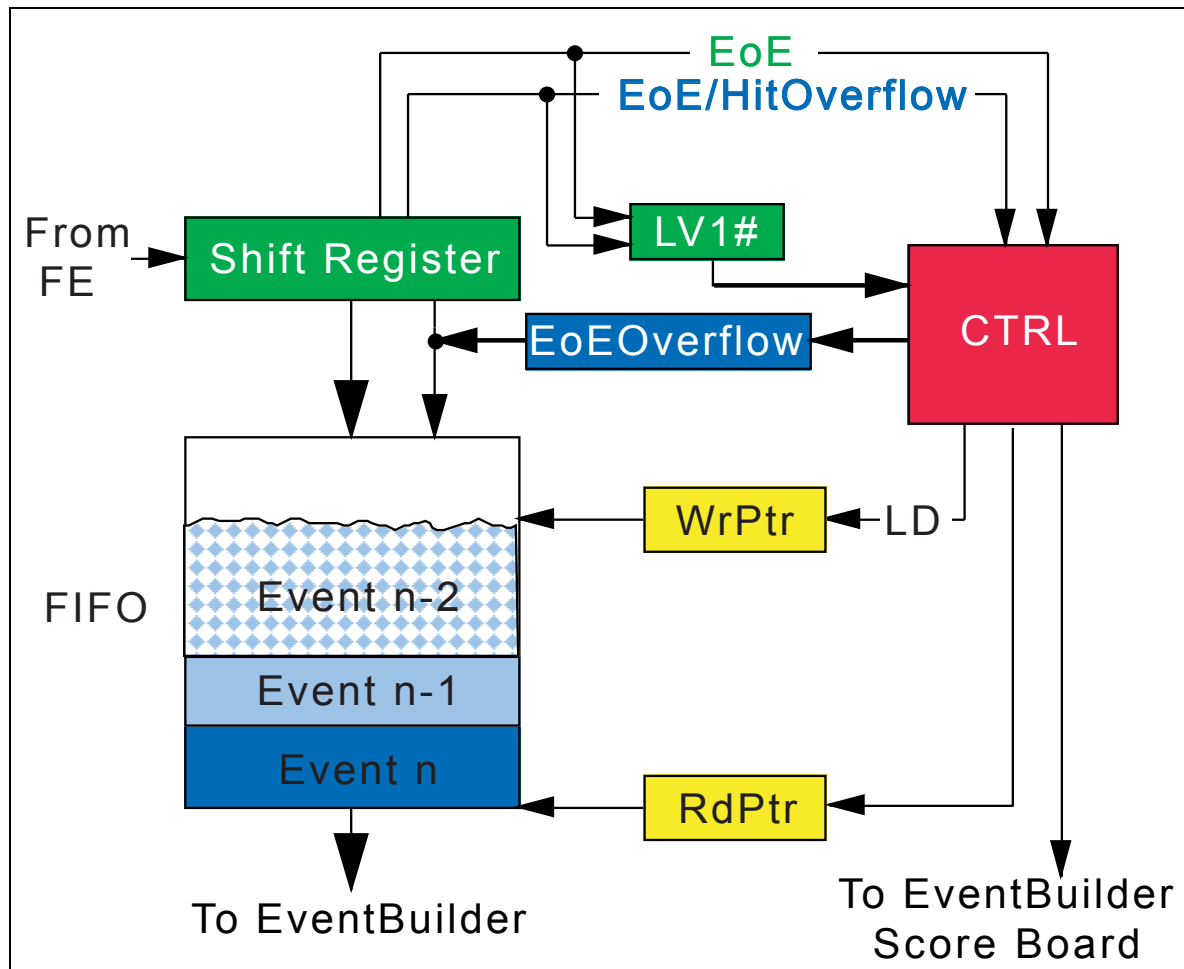

Figure 3-2 Event R/O by MCC: Front-End Receiver and input FIFO.
- Fig. 3-2** *p. 4* Event R/O by *MCC*: Front-End **Receiver** and input **FIFO**.
The block diagram of Figure 3-2 is an expanded view of one of the sixteen Receivers present in the MCC. As we can see the Receiver is composed by three main building blocks, the receiving ShiftRegister, the FIFO and the ControlStateMachine that deals with Warning conditions and FIFO pointer management.
As can be seen in Figure 3-2 the FIFO has two different pointers, one write pointer (WrPtr) and a read pointer (RdPtr). Both pointers are dealt with inside the ControlStateMachine.